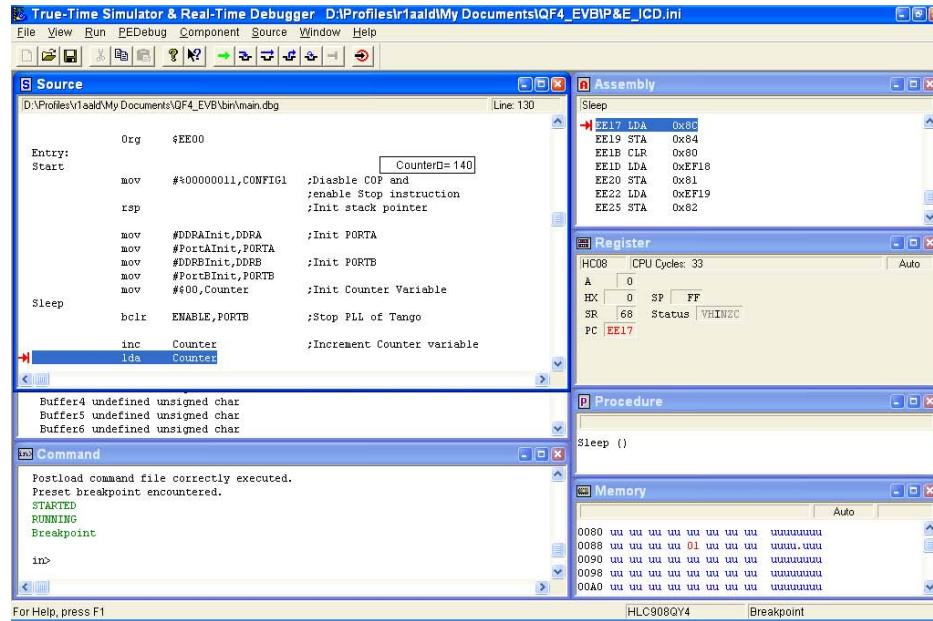
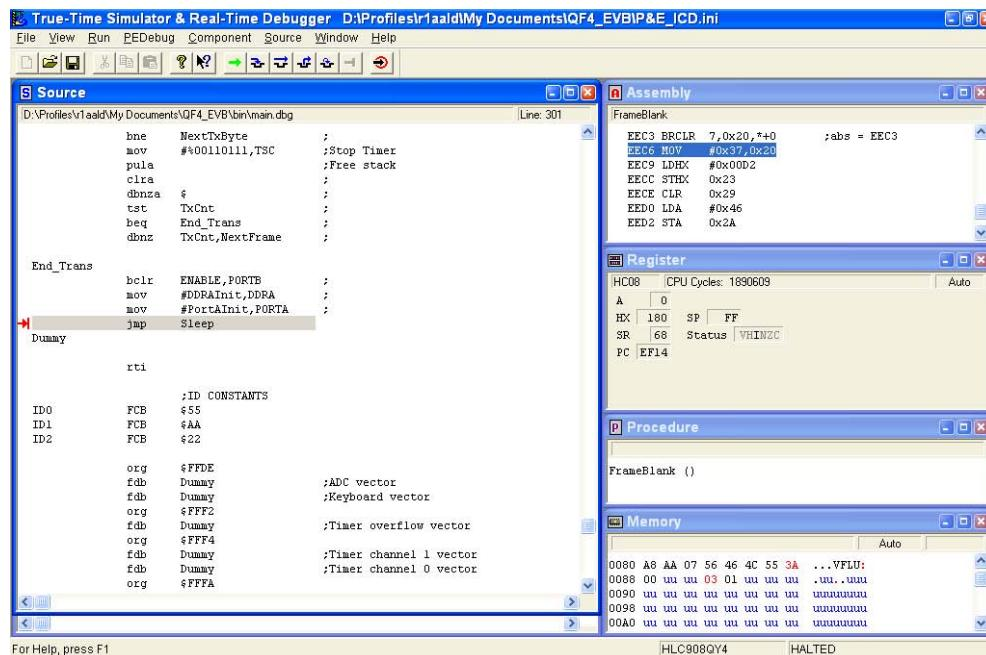

Figure 7. Initialization
Figure 12. Returning to the Main Routine
The screenshots in Figure 7 through Figure 12 show the code necessary to generate a UHF transmission. Set the breakpoints at the locations shown in the screenshots. By single-stepping and using the debugging interface, you can see how the code works.
- Initialization** — Figure 7 shows the initialization code for the transmit code that is implemented on the QF4 evaluation board. This code disables the COP and configures the I/O so that the critical signals (ENABLE and DATA) are prepared for proper operation.
6. **Returning to the Main Routine** — After transmissions are complete, the code returns to the main routine so that the counter can be incremented and the sequence can be repeated. See Figure 12.
Your Multilink or Cyclone tool will place the QF4 evaluation board in monitor mode. As soon as the board is in monitor mode, you can change the W3/W4 headers from debug mode (1–2) to RF mode (2–3). Using the screen shots in Figure 7 through Figure 12, you can run the code on the hardware and generate RF transmissions while debugging.